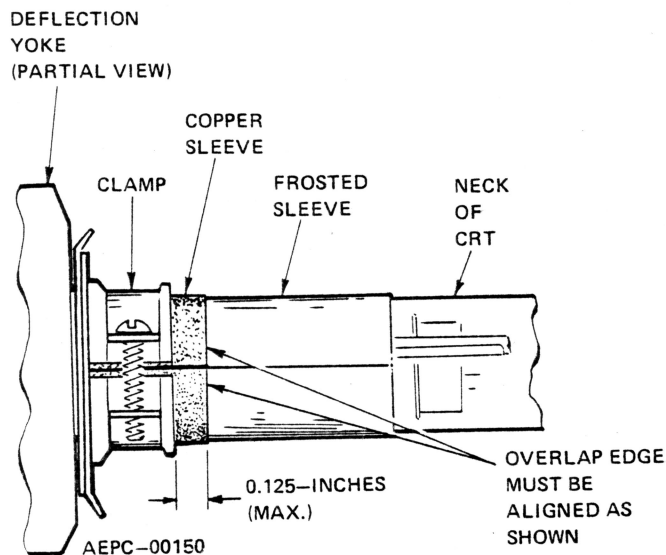

Figure 1. Partial View of CRT Neck/Deflection Yoke for Horiz. Linearity Adjustment
Step 3. (Refer to Figure 1.) Loosen the deflection yoke clamp screw just enough to permit sliding the copper sleeve on the CRT neck back and forth.
Step 4. (Refer to Figure 1.) Position the copper sleeve so that only  $1/8"$  (.125") extends out past the rear lip of the deflection yoke. In addition, be sure that the overlap edge of the copper sleeve is aligned properly and not twisted.